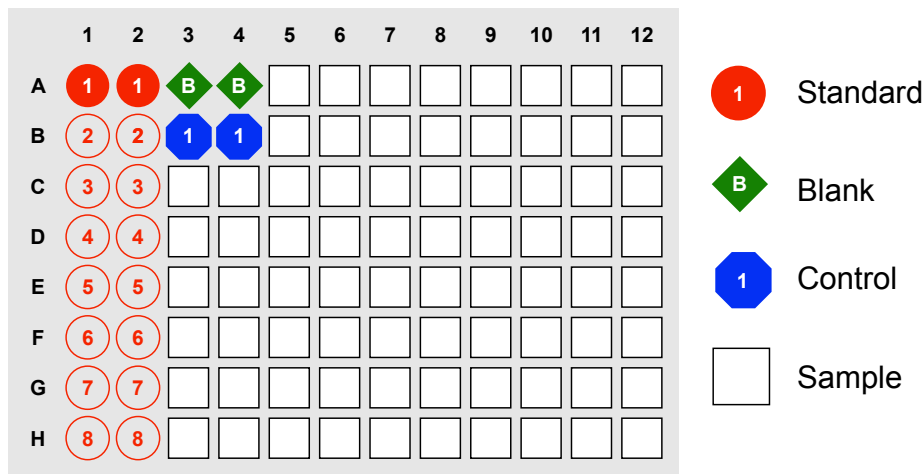

Fig. 4. Plate formatting.
1. Click **Format Plate** and format the plate according to the plate layout created in 1. Plan the plate layout in this section. To modify the plate layout, perform the following steps (see Figure 4).